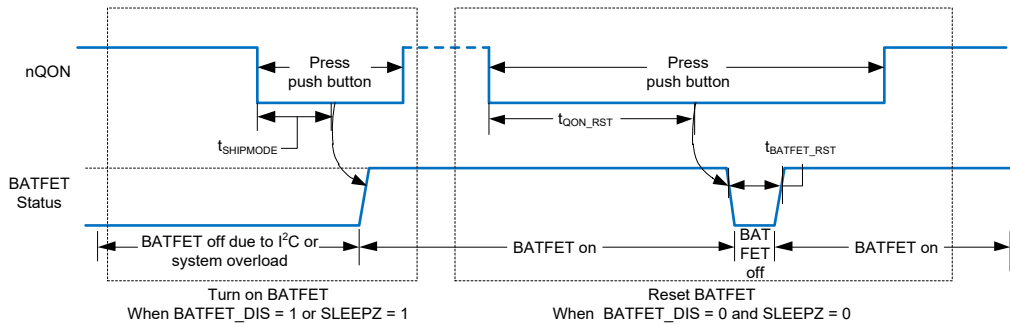

Figure 10. Left: nQON Timing to Exit Ship Mode (Enable BATFET), Right: System Power Reset (BATFET Temporarily Off)
1. Enable BATFET: Applying an nQON logic high to low transition with longer than $t_{SHIPMODE}$ deglitch time (negative pulse) turns on BATFET to exit ship mode (Figure 10 left).
BATFET is allowed to turn on (BATFET_DIS bit = 0), the BATFET turns off for t_{BATFET_RST} and then it is re-enabled resulting in a system power-on-reset. This function can be disabled by clearing BATFET_RST_EN bit (Figure 10 right).